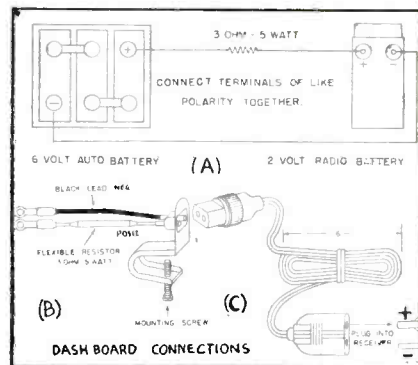

Figure 1
3. Insert plug A into the receptacle B which is installed on the dashboard. Two wires connected to the storage battery will serve the same purpose. See Figs. 1-a, b, and c.